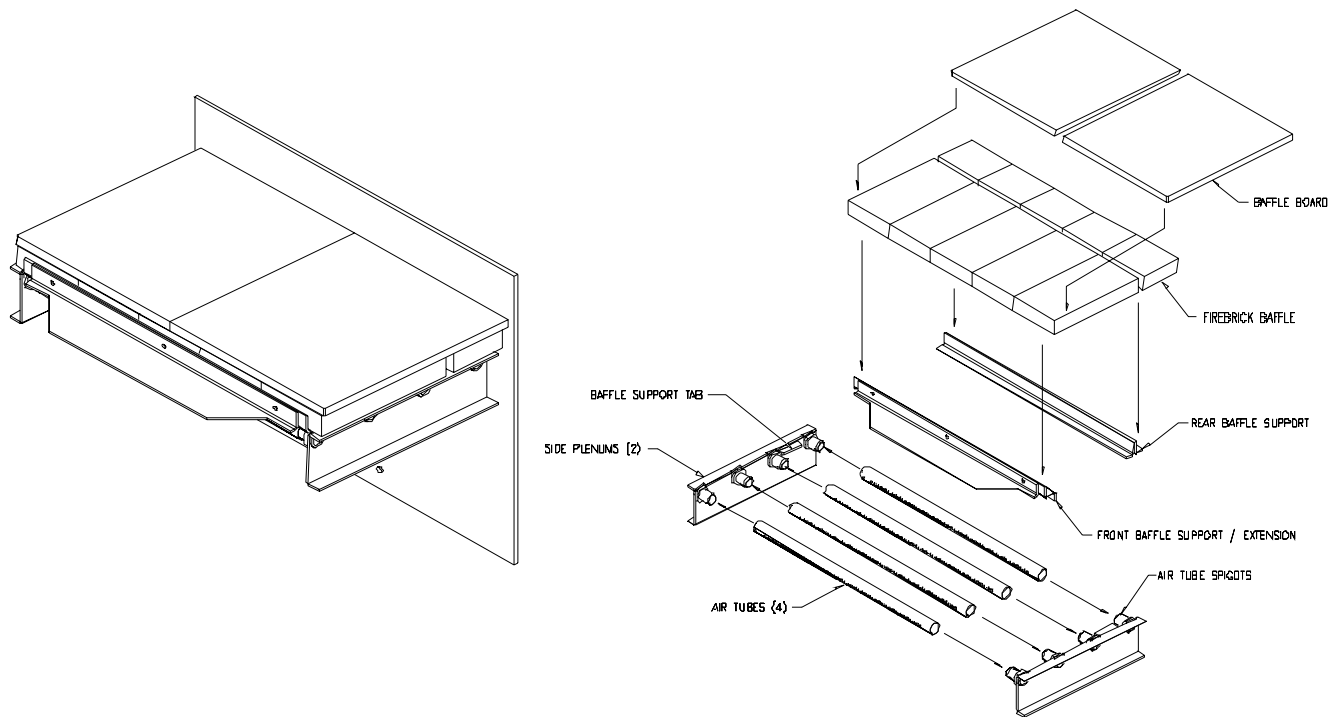

Figure 3.2 – Baffle installation & removal
7. Ensure baffle boards are located as per Figure 3.2.